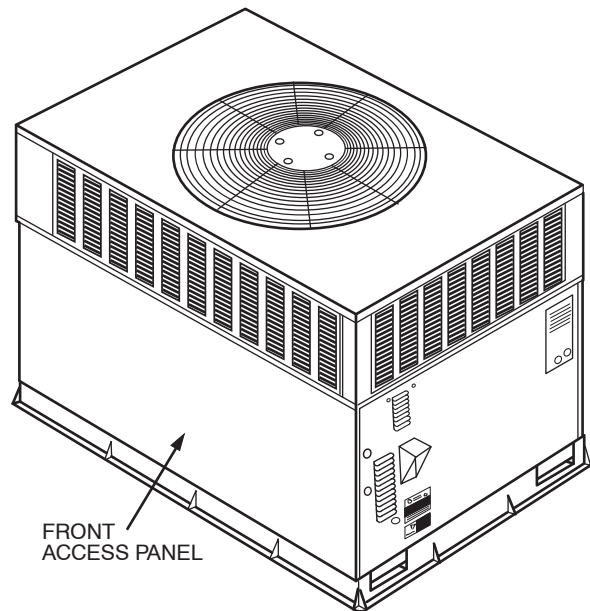

Fig. 18 - Unit Access Panel
1. Remove unit access panel (See Fig. 18).
3. Remove unit access panel (See Fig. 18).